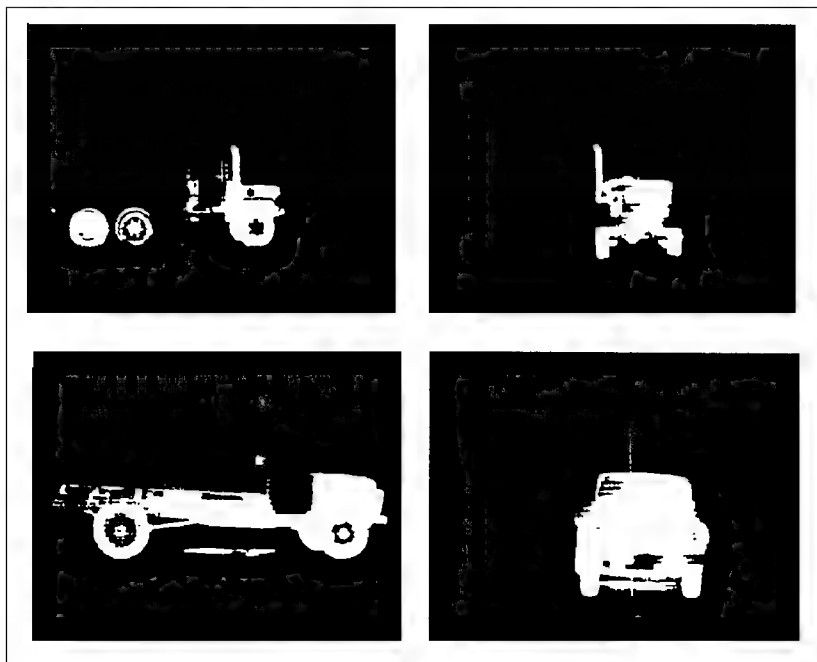

Figure I-5. Trucks.
- Figure I-5. Trucks (page I-8).